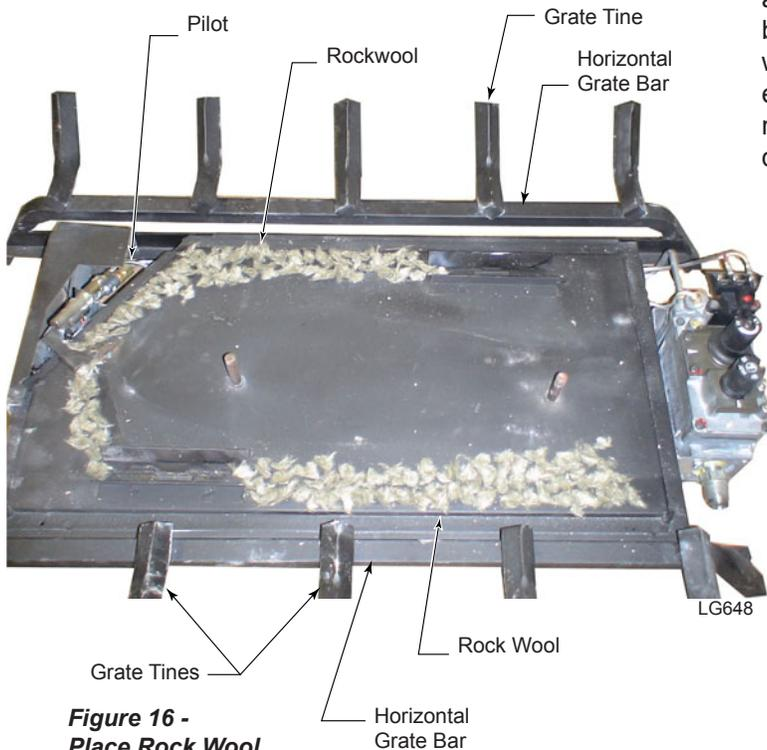

Figure 16 - Place Rock Wool
1. Place dime size pieces of rock wool evenly over small burner ports starting at pilot and down each side of burner. Avoid placing rock wool on slots on either side of burner between the air deflectors. *Figure 16*. Wash hands after placing rock wool. Skin irritation may occur.